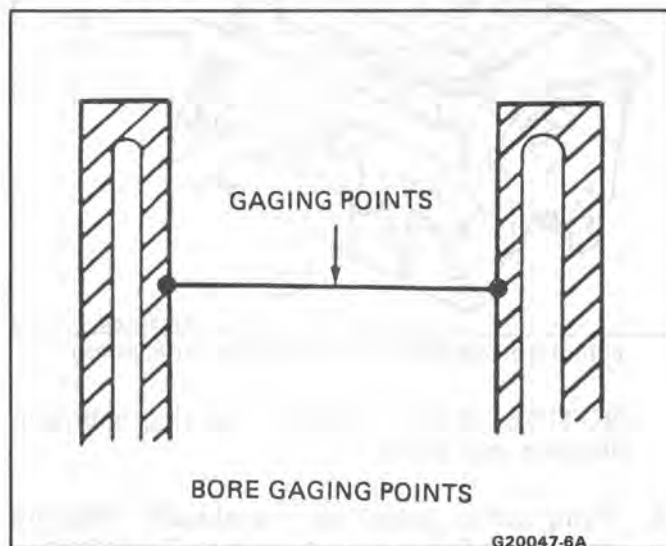

Figure 51 Cylinder Bore Gaging Point
2. Cylinder bore (Figure 51), refer to Cylinder Block. If worn beyond specifications, rebore and hone to size.